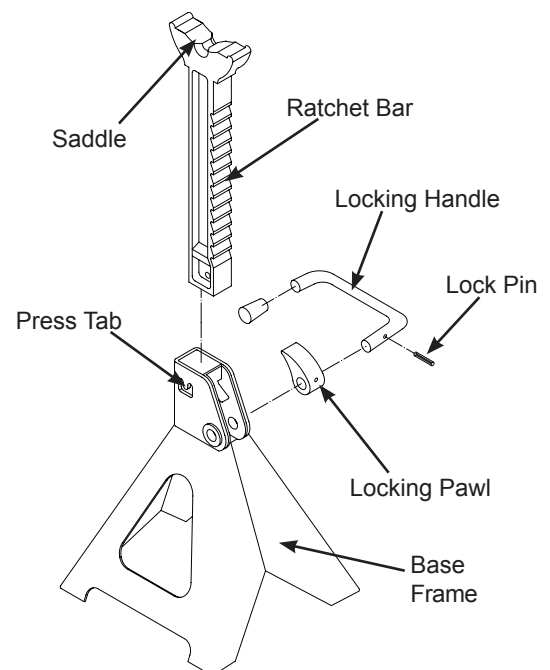

Figure 2 - Jack Stand Components
3. Ratchet/collar lock is accomplished by simply pressing the press tab (see Fig. 2) inward using a suitable hammer and punch. This will prevent inadvertent loss of the ratchet bar.